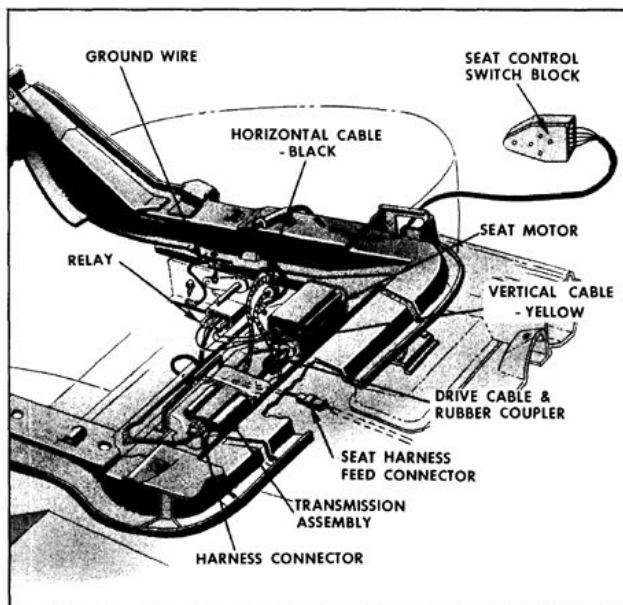

Fig. 16-106 Bucket Seat (Four-Way)
2. Disconnect wire harness from motor relay assembly. (Fig. 16-106)
4. To install, reverse removal procedure, making sure rubber coupling is properly engaged at both motor and transmission ends. (Fig. 16-106)
3. Remove screws securing horizontal and vertical cable end plate on side of transmission from which cables are being removed and remove cables from seat assembly. (Fig. 16-106)
2. Disconnect wire harness connector from transmission. (Fig. 16-106)